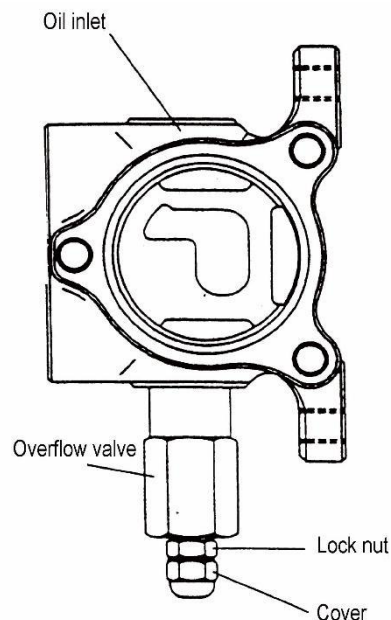

Fig. 7-3 Pressure Adjustment of Safety Valve
### (2) Adjustment method of safety valve pressure (Fig. 7-3)